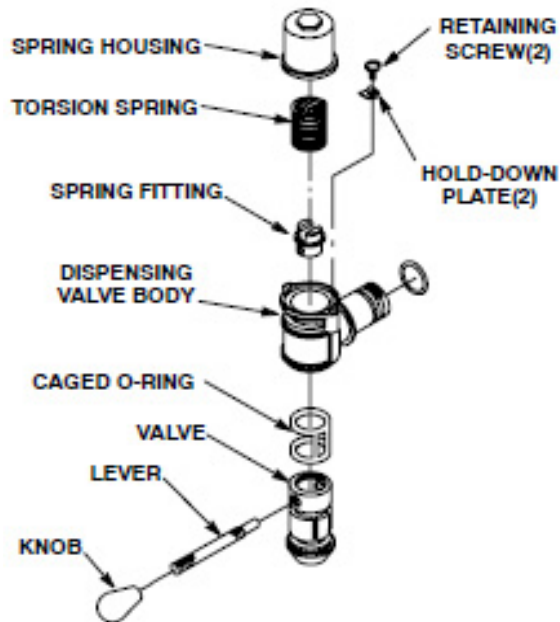

Figure 34. Self-Closing Dispensing Valve
Refer to Figure 34 and perform the procedure in Table 40 to lubricate or change the caged o-rings in each dispensing valve on the unit.
6.	Disassemble the dispensing valve (see Figure 34).